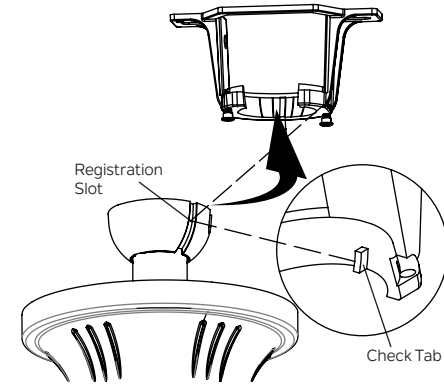

Fig. 10
**Step 6.** Now lift the motor assembly into position and place the hanger ball into the mounting bracket. Rotate until the check tab has dropped into the registration slot and seats firmly. ( Fig. 10) The entire motor body should not rotate if this is done correctly.